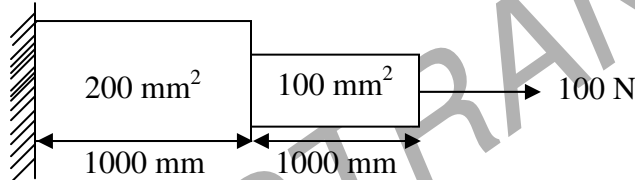

Fig: 1
2. Find the Displacement at the free end and the Element stresses for the following problem given in figure 1, Assume $E = 2 \times 10^5 \text{ N/mm}^2$. [16]